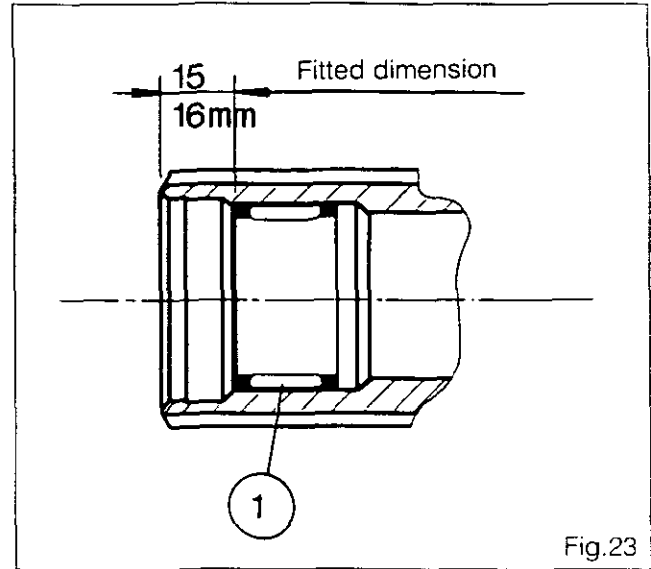

Fig.23
80. Fit needle-roller bearing (1) (Fig.23) so that it is 15 - 16 mm from the front face of the shaft.
81. Lubricate shaft (36) and insert it in ring carrier (33) from the front.